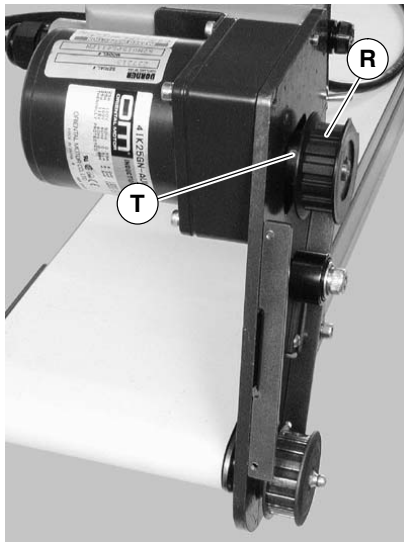

Figure 21
6. Loosen two (2) set screws (T of Figure 21). Remove drive pulley (R).
8. Mount new gearmotor with four (4) screws (X). Tighten to 45 in-lb (5 Nm).
9. Replace drive pulley (R of Figure 21) and tighten set screws (T).